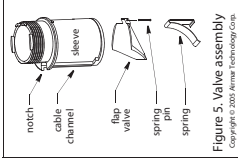

Figure 5. Valve assembly
CAUTION: Be careful to avoid cross threading the CAP nut. Should the valve fail, it will need to be removed for servicing. Follow the steps below to remove the valve assembly. If the valve assembly is not immediately available, the valve sleeve must be reinstalled in the multisensor housing for a watertight seal. Remove the flap valve, spring pin, and spring from this sleeve (Figure 5). Then reinstall the sleeve in the housing.
4. Clean, repair, or replace the valve assembly so the flap valve moves freely and seats against the sleeve (Figure 5).
7. Remove the safety wire from the multisensor. With the combined valve assembly and paddlewheel insert ready in one hand, remove the blanking plug. Slide the assembly into the multisensor housing with the arrow on the top pointing forward toward the bow. Be sure the cable fits into the cable channel and the notch in the sleeve fits into the key in the housing (Figure 5). A pushing twisting motion will locate the key.